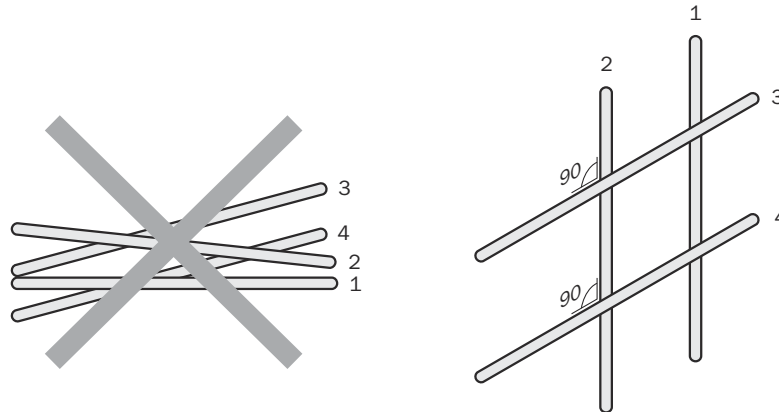

Figure 5: Cross cables at right angles
- ▶ Cables in groups 1, 2 and 3, 4 must be crossed at right angles, see figure 5.